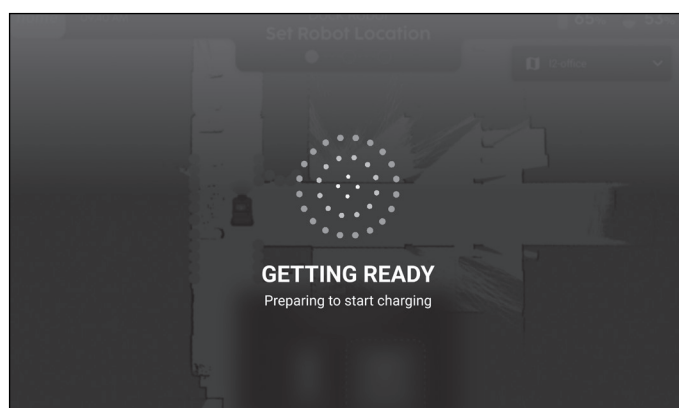

Figure 63
2. Press 'Start' and the machine will begin to dock (Fig. 63).